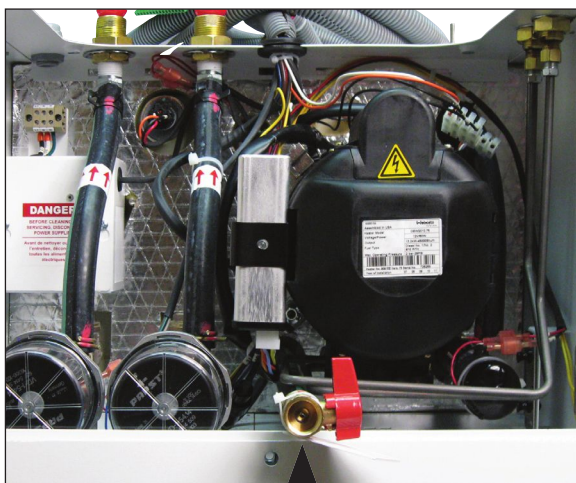

Figure 48
NOTE: The Aqua-Hot’s boiler tank must be filled with the antifreeze and water heating solution through the drain valve and not through the top of the unit, in order to avoid air traps. Reference Figure 48.
1. Open the Aqua-Hot’s drain valve located at the front of the heater. Reference Figure 48.